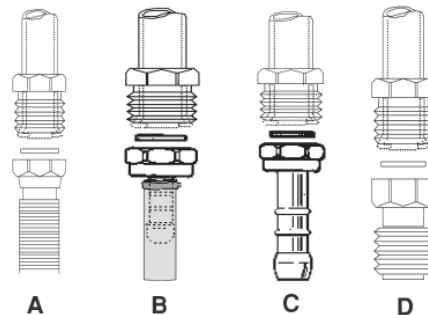

Figura 11
• RACCORDO CON TUBO METALLICO FLESSIBILE (FIGURA 11 DISEGNO A)
• RACCORDO CON TUBO IN GOMMA (FIGURA 11 DISEGNO B E C)